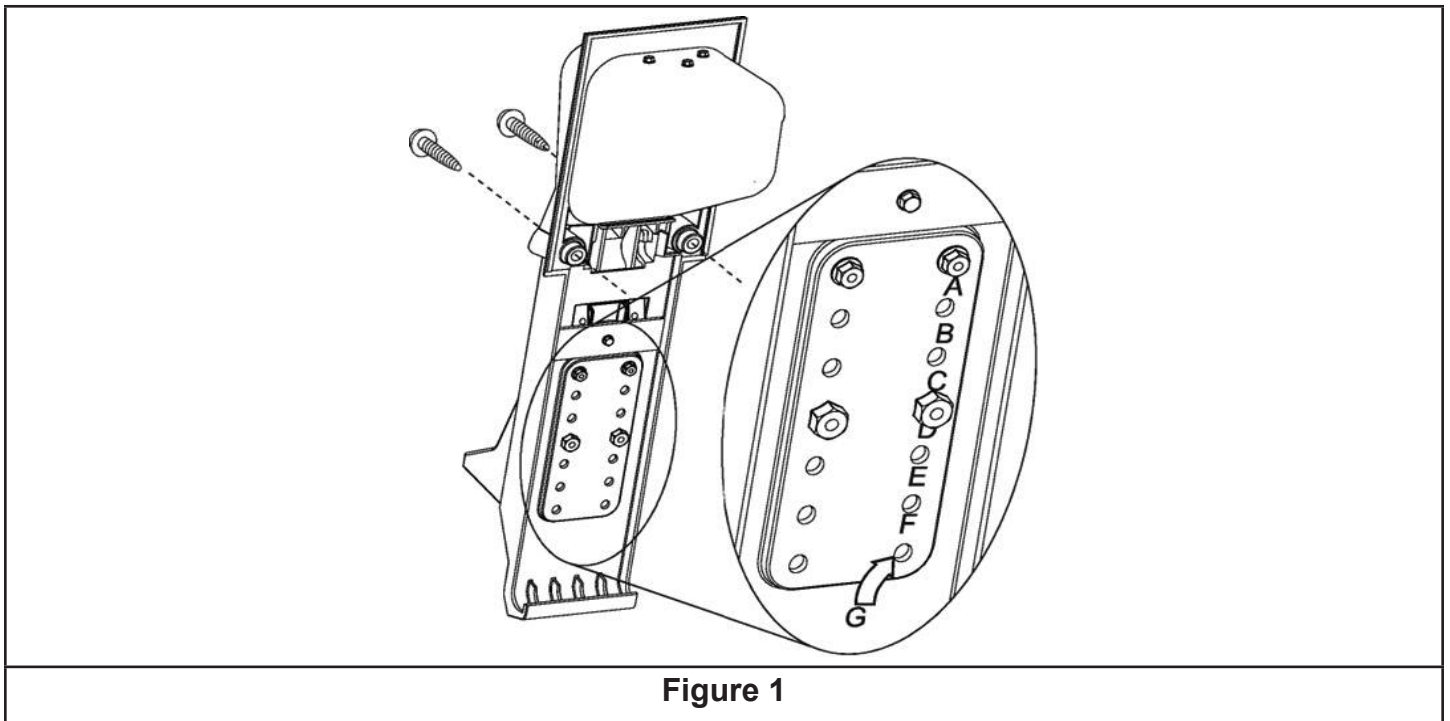

Figure 1
1. Loosen two nozzle boot mounting screws. (See figure 1) using 1/4" square tip driver. Note: Save nozzle boot mounting screws for use later.
2. See figure 1 to identify existing nozzle hook retaining screw and nut locations. Identifying marks are located under right hand row of indented hole locations. Standard nozzle hook locations are A & D.
1. Determine new nozzle hook position using chart below as guide to select new hole positions. See Figure 1 to identify nozzle hook retaining screws and nuts locations. Identifying marks are located under right hand row of indented hole locations.